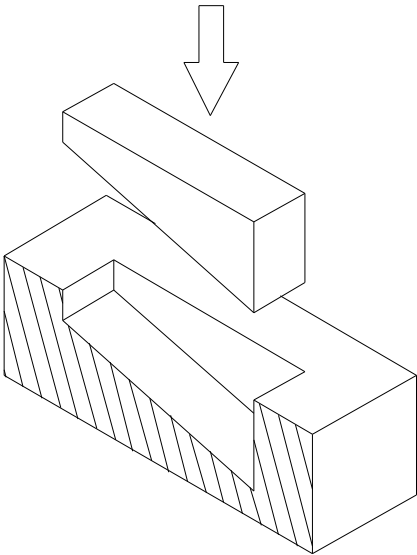
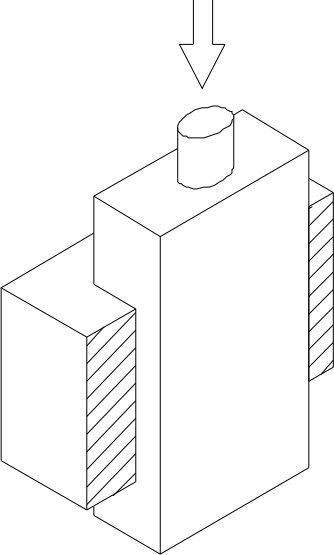

FIG. 4-3
FIG. 4-4
- 3. SPARKING FOR CARVING (FIG. 4-3 AND FIG. 4-4)